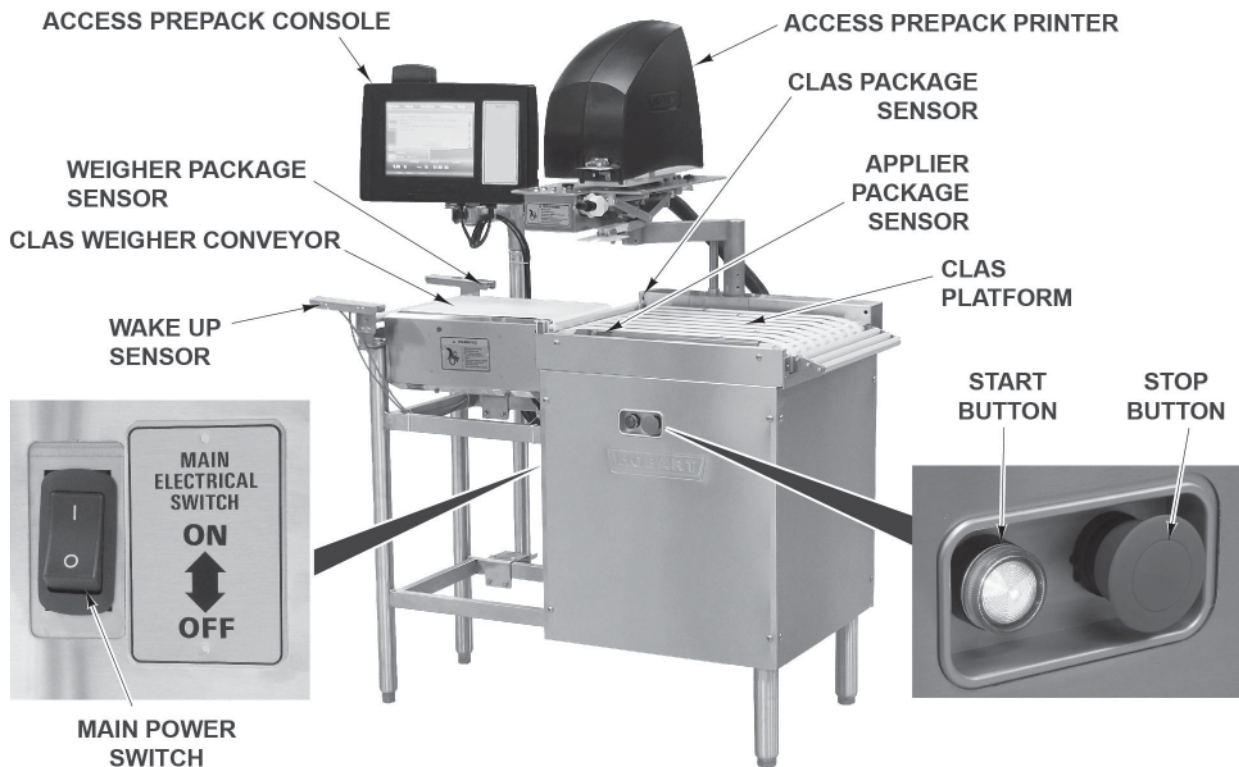

Fig. 4
The main power switch (Fig. 4) is located on the side of the CLAS under the weigher.. It controls power to the entire system. This switch does not control power to the Access PrePack Console or Printer.
The start button (Fig. 4) is located on the front panel of the CLAS and is used to turn on the power to the CLAS system conveyors and label applicator. This button does not control power to the Access PrePack Console, Printer, or CLAS weigher function. The start button will illuminate green when on.
The stop button (Fig. 4) is located on the front panel of the CLAS and is used to turn off the power to the CLAS system conveyors and label applicator. When pressed, the CLAS conveyors will stop.
Information about the operation and care of the console (Fig. 4) and printer (Fig. 4) is covered in a separate manual.
- The wake up sensor (Fig. 4) is located at the end of the SP-5 Sealer Belt Conveyor. It is used to wake up the CLAS when in auto apply, wrap, and label mode.
- The weigher package sensor (Fig. 4) is located after the wake up sensor but before the CLAS weigher conveyor. It is used to stop the CLAS weigher conveyor after the package has been moved fully onto the conveyor for weighing when in auto apply, wrap, and label mode.
- The CLAS package sensor (Fig. 4) is located after the CLAS weigher conveyor and before the CLAS platform conveyor. It is used to start the CLAS platform conveyor and move the package into position for labeling. This sensor is used in auto apply, wrap, and label mode and auto apply and label mode.
- The applier package sensor (Fig. 4) is located on the front of the CLAS near the gate. It is used to indicate the position of the printer and assist with positioning the package for label application. This sensor is used in auto apply, wrap, and label mode and auto apply and label mode.
- Press the green start button (Fig. 4) on the front of the CLAS. The button will be lit to indicate the CLAS is ready.
- Place the wrapped package on CLAS weigher conveyor (Fig. 4).
- Place the wrapped package on the CLAS weigher conveyor (Fig. 4).
Use a cotton swab to clean the four sets of sensors (Fig. 4) on the CLAS.